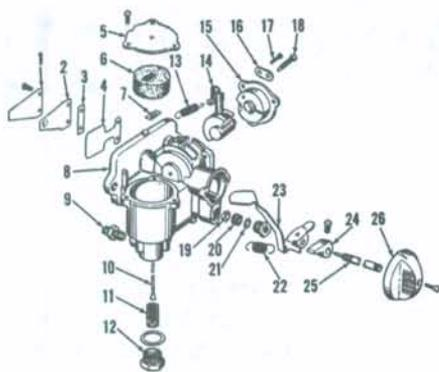

Fig. OM1-1—Exploded view of the integral float type carburetor used on all models. Float valve seat is machined in carburetor body.
CARBURETOR. The integral float type carburetor shown in Fig. OM1-1 is used. The float valve seat is machined into bottom of carburetor body (8). If seat is damaged, carburetor body must be renewed. Float valve extends through float (6) and bowl cover (5), and is manually depressed by primer lever (23) to supply the starting fuel.
REED VALVES. The inlet reed valve unit (1 through 4—Fig. OM1-1) is attached directly to carburetor body. Reed valve should be checked whenever the carburetor is removed for service. Reed valve (4) should seat very lightly against carburetor body throughout its entire length, with the least possible tension. Renew reed petal if broken, cracked, warped, rusted or bent. Do not attempt to bend or straighten reed petal. Seating surface of carburetor body should be smooth and flat.